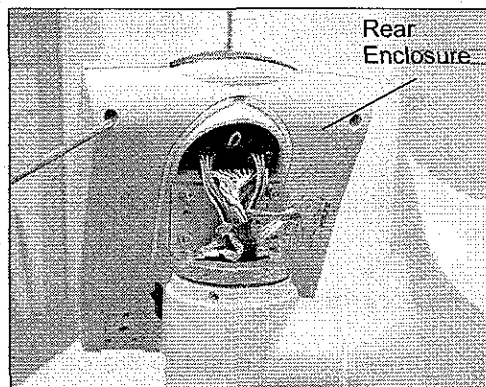

Figure 4-5a: Injector Controller
- a. Remove the four corner Phillips screws from the Injector Controller's Rear Enclosure (see Figure 4-5a).